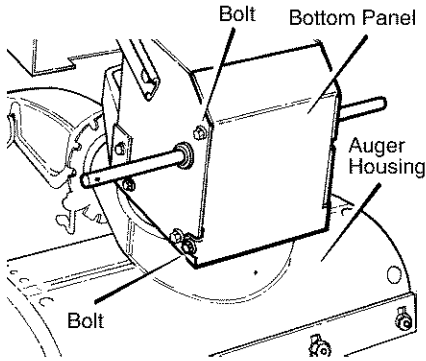

Figure 27
2. Loosen the **bolts** on each side of the **bottom panel** (see Figure 27).